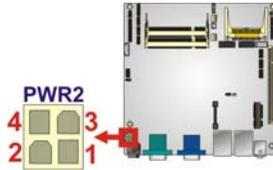

Figure 3-3: 12 V Power Connector
- CN Location:** See Figure 3-3